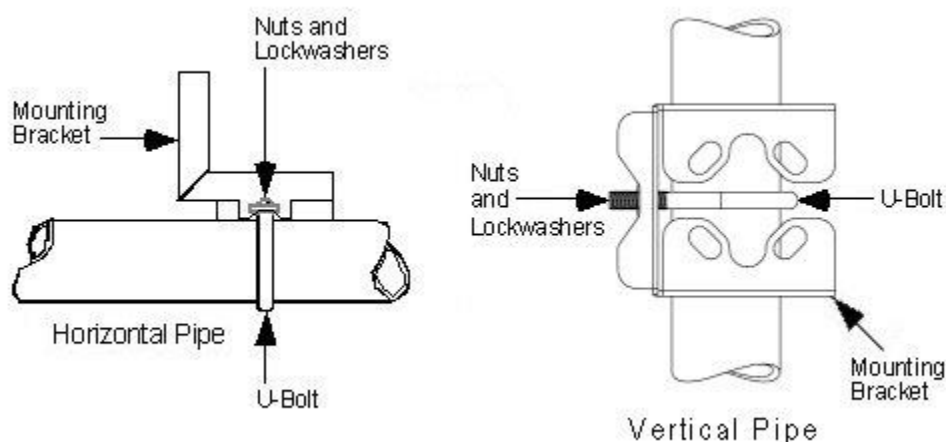

Figure 46 – ST 700 Basic Transmitter - Angle Mounting Bracket Secured to a Horizontal or Vertical Pipe
5. Refer to Figure 46 for position of the bracket on a 2-inch (50.8mm) nominal, 2.38-inch (60.4mm) actual, horizontal or vertical pipe, and install a “U” bolt around the pipe and through the holes in the bracket. Secure the bracket with the nuts and lock washers provided.